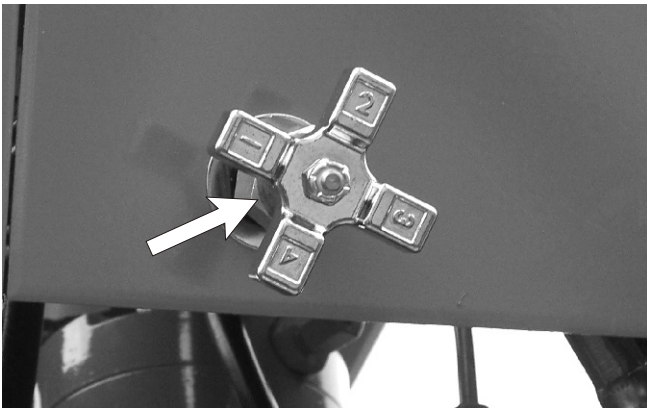

Figure 7.11 - Lower Emergency Bleed Down Valve
1. **Emergency Bleed Down:** Located at the rear of the column (see Figure 7.11) this valve provides facility to lower the platform in the event of a control failure or other emergency. Turn the valve counter clockwise to open it and lower the platform to the ground.